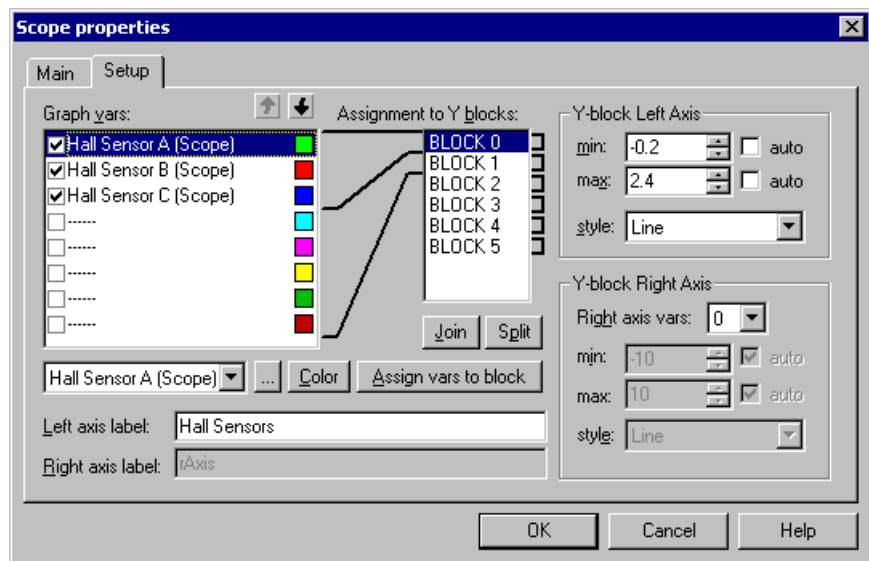

Figure 4-7. Scope Properties - Set-up Page
The *Setup* page (**Figure 4-7**) is used to assign variables to be displayed on the oscilloscope chart. Up to eight *Chart vars* (seven in X-Y mode) may be selected for display in the chart and assigned to a maximum of five Y-blocks. Select one of eight positions and browse for a variable in the drop-down list below the list to set or change a variable at this position. Select the first (empty) item in the drop-down list to clear the selected position in the list. Each chart variable is assigned to a Y block.
- *Assign vars to block* button = Assigns successive selected *Chart vars* to a Y block. Select the chart variables you want to group into one Y block and press this button. The simple assignment of three variables into single Y block is shown in Figure 4-7.